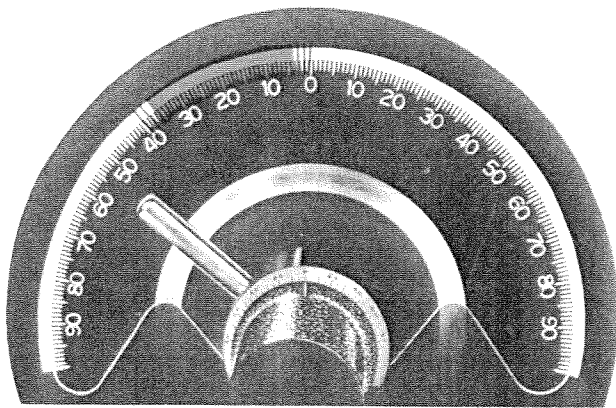

Figure 27. Lights Showing Movement of Points Before Opening
occur in the same position at the protractor as shown in Figure 27 and when the points close they will have a rolling or bouncing action as shown by the syn-
4. Having the play; (.0015") between the breaker bar bushing and the fulcrum pin on the wrong side, which will cause a sliding action on the face of the contact points before they open. Figure 27.